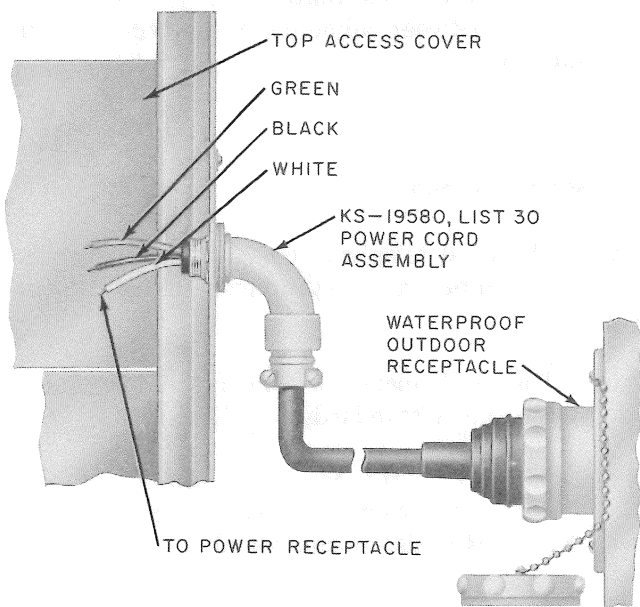

Fig. 22—KS-19580, List 30 Power Cord
3.15 Bring overhead power into an outdoor booth with a KS-19580, List 30 power cord assembly (Fig. 22).